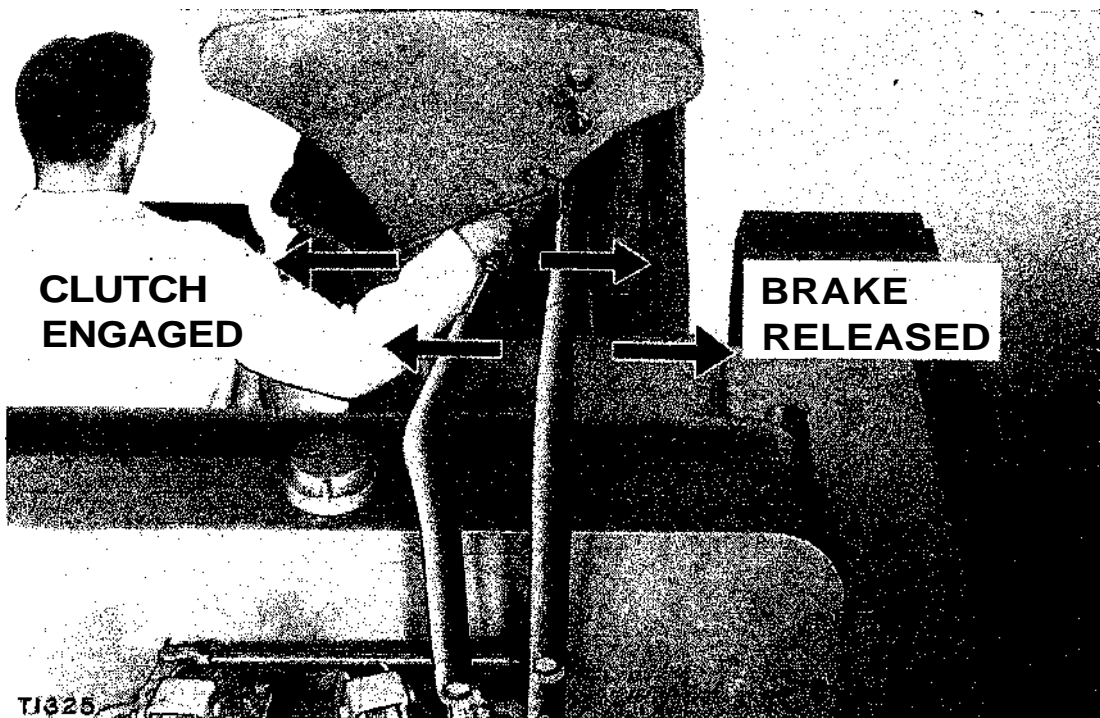

FIGURE 5—CONTROL LEVERS IN "NEUTRAL" POSITION
A. Description. (See figure 5.)
(1) The No. 25 Rear Cable Control may be mounted on the D6, D7 and D8 tractors. The No. 23 Rear Cable Control may be mounted on D6 and D7 tractors.
(2) The cable control is driven by the tractor engine through the adapter coupling which is connected to the transmission upper shaft.
(3) When the engine is running and the flywheel clutch is engaged, all of the cable control gears and the clutch driving discs are turning.
(4) The cable is spooled onto the drum when the control lever is moved to the "clutch engaged" position. In this position, the engagement mechanism causes the driven discs to contact the driving discs thereby turning the cable drum.
(5) The cable drum is held by the self energizing brake when the control lever is in the "neutral" position.
(6) The cable is unspooled from the drum when the control lever is moved to the "brake released" position.